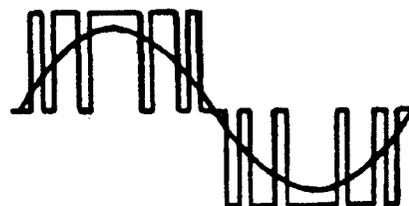

FIGURE 2
P.W.M. (Pulse Width Modulated) inverters change the incoming power to D.C. and then pulse the D.C. into the motor leads to simulate A.C. Figure 2 shows a representation of the output voltage waveform.